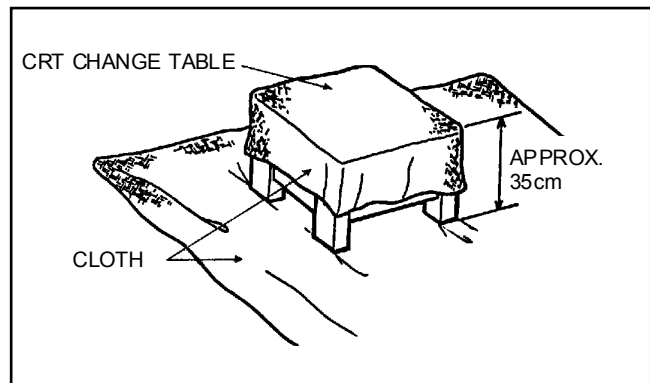

Fig. 8
1. Putting the CRT change table on soft cloth, the CRT change table should also be covered with such soft cloth (shown in Fig.8).